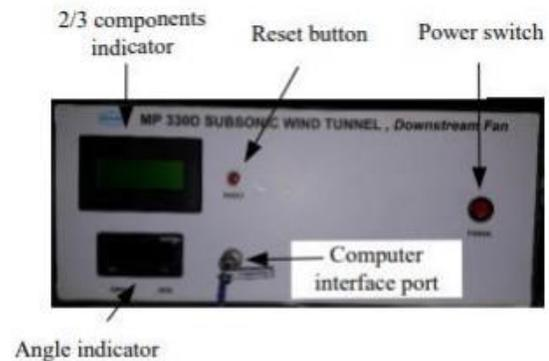

Figure 21. Indicator and interface box
2.4 Turn on the indicator and interface box’s power switch. (See Figure 21) 2.5 Turn on the fan motor by pushing “START” button at the inverter and adjust the rotation speed till the required air velocity is obtained by checking from the reading of the inclined manometer against the calibrated velocity graph. (See Appendix 2).
2.7 See Figure 21, turn the adjusting knob at 2/3 component balance box to rotate the model to 10 degrees (Observe the scale index and angular scale/or optionally read angle value from display) Then record the drag force, lift force, and pitching force (optional).